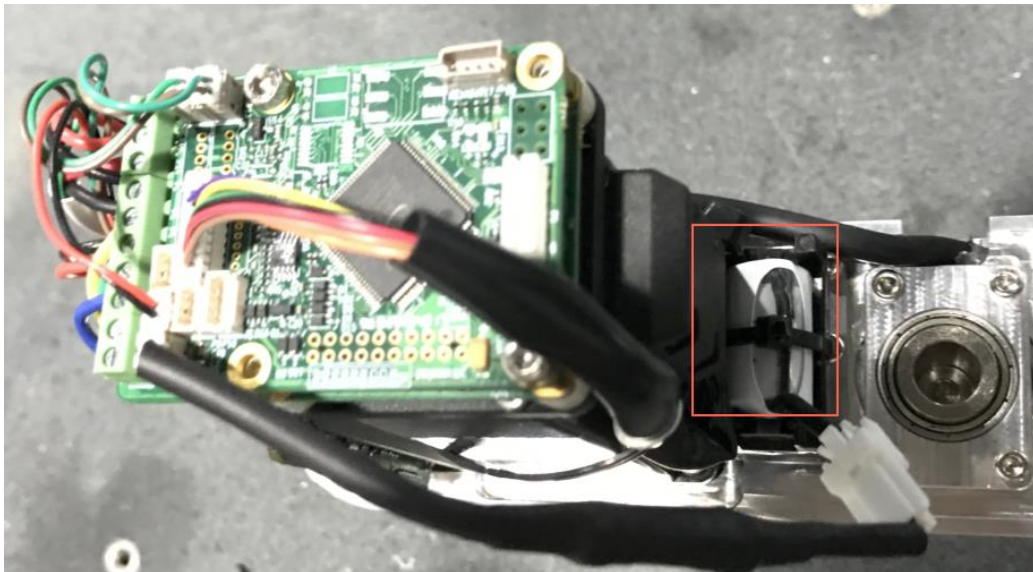

Figure 7.11 Location of battery holder on Forearm
2. Cut off the wire tie that fixed the original battery, as shown in Figure 7.11.